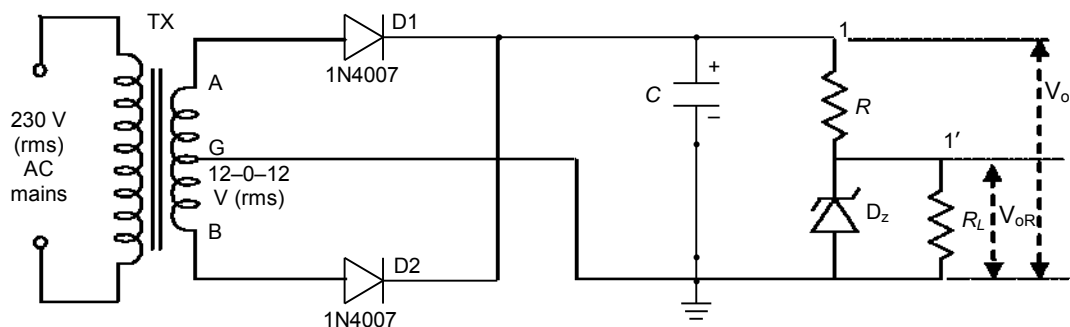

Fig. 2 Regulated Power Supply with zener diode.
1. Connect a zener diode D_Z with series resistance $R = 560 \Omega$ as shown in Fig. 2. The voltage across D_Z will now be the desired (regulated) output voltage V_{oR} which will supply current I_L to the external load R_L .